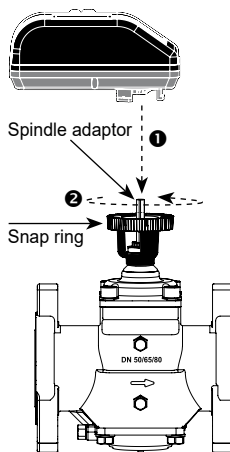

Figure 2
① Then place the actuator on the spindle adaptor and place the three actuator "legs" into the three holes in the mounting bracket (figure 2 and 3). Make sure that the snap ring is clicked onto the mounting bracket, so that the snap ring is locked at the top of the mounting bracket, but still able to rotate. ② Then finger-turn the snap ring counter clockwise (upside view) approximately 1/6 of a turn until its stop points touch the actuator "legs" and the mounting is lock with a (small) click. Do not use additional tools.